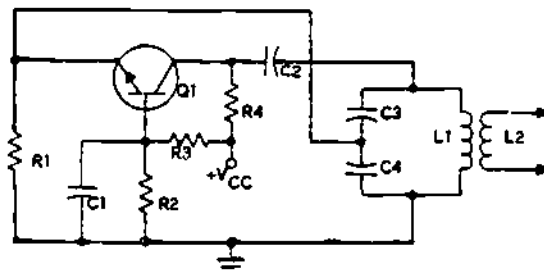
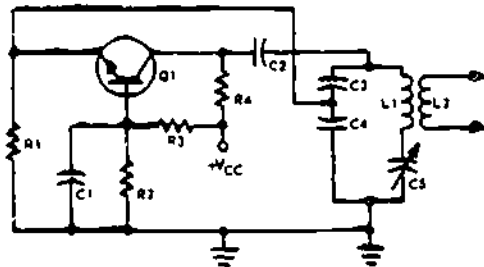

Figure 43-5
Figure 43-6
(NOTE: For questions/statements 1 through 5, refer to figure 43-5 schematic diagram).
(NOTE: For questions/statements 6 through 10, refer to the figure 43-6 schematic diagram).
7. The principal difference between the figure 43-5 and figure 43-6 schematic diagrams is the addition of _____.